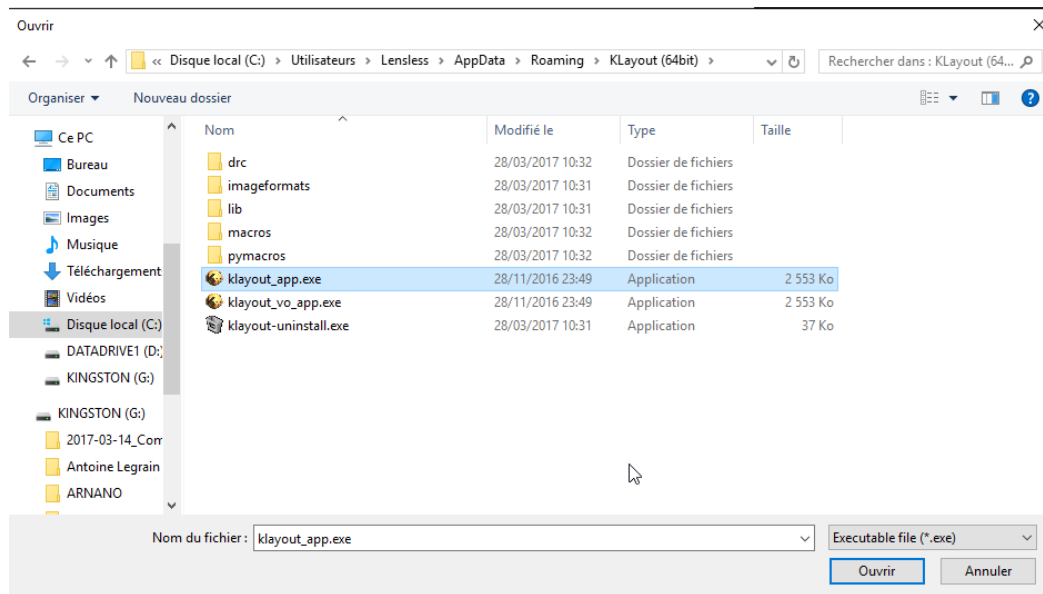
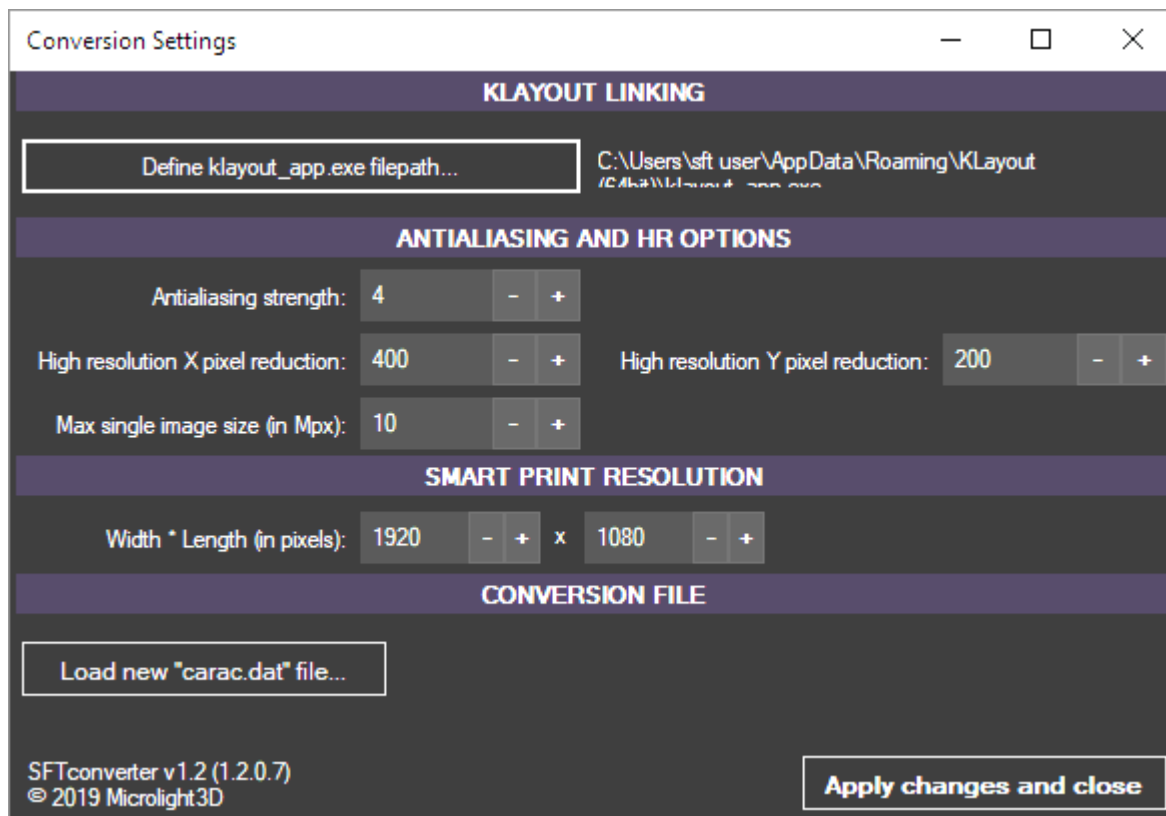

Figure 3 – Folder containing the KLayout executable
Figure 9 - Setting window
*If KLayout is not found by SFTconverter:* Go to the setting window by clicking on **Settings**. Then, click on **Define klayout\_app.exe filepath...** (Figure 9). In the **Open** window, find and select the executable file *klayout\_app.exe* (Figure 3).